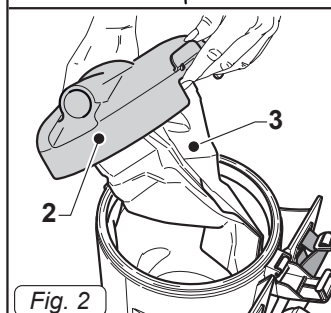

Fig. 2
- Release the lid clips (1a/1 Fig.1) and remove the top lid (2 Fig.2) together with the dust bag (3 Fig.2).